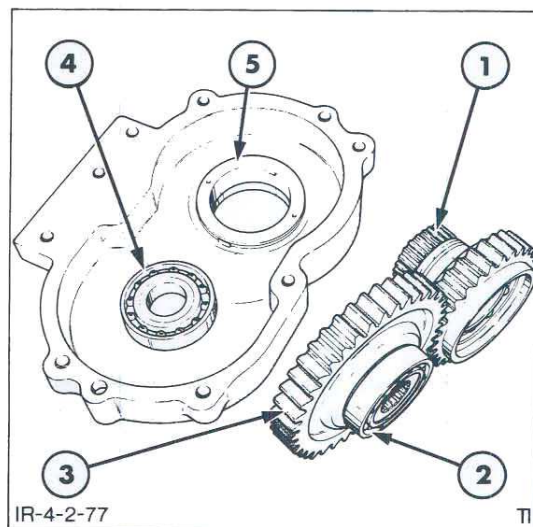

Figure 78
2. Strike the front cover plate with a suitable soft faced mallet to release the hydraulic pump driven gear from the housing, Figure 78.